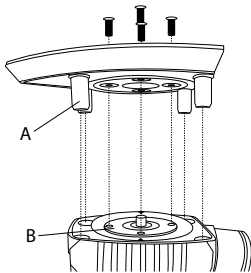

Figure 1
- ◆ Now fit the required sander plate. Ensure that the mounting plate **B** is aligned with the sander plate. The threaded holes of the mounting plate **B** must be aligned with the corresponding holes on the respective sander plate. Align the rubber pins **A** **15** (only on sander plates **9** and **11**) with the holes in the appliance (see fig. 1).